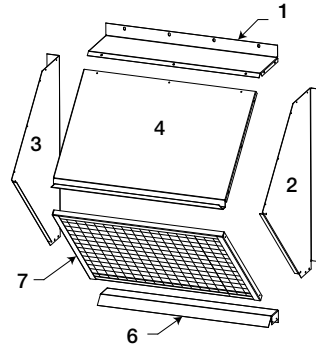
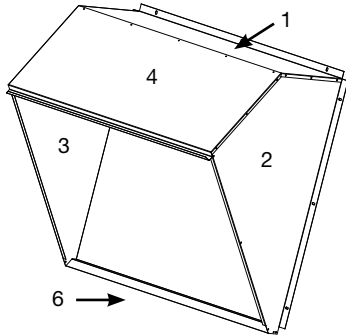

Figure 1:
Figure 6:
1. Refer to Figure 1 to identify parts for assembly.
2. Assemble front diagonal panel (4) to right side panel (2) with 5/8 inch (16 mm) length sheet metal screws. Overlap the flange on the front diagonal panel (4), over the right side panel (2).
3. Repeat step 2 for left side panel (3).
4. As shown in Figure 6, assemble the top panel (1) to the front diagonal panel (4) and side panels (2 & 3) overlapping with the flanges. Use 5/8 inch (16 mm) length supplied sheet metal screws.